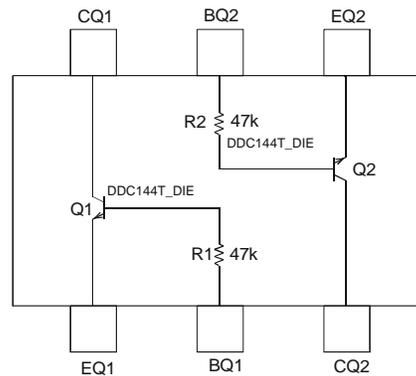

Fig. 2: Schematic and Pin Configuration
- Terminal Connections: See Fig. 2